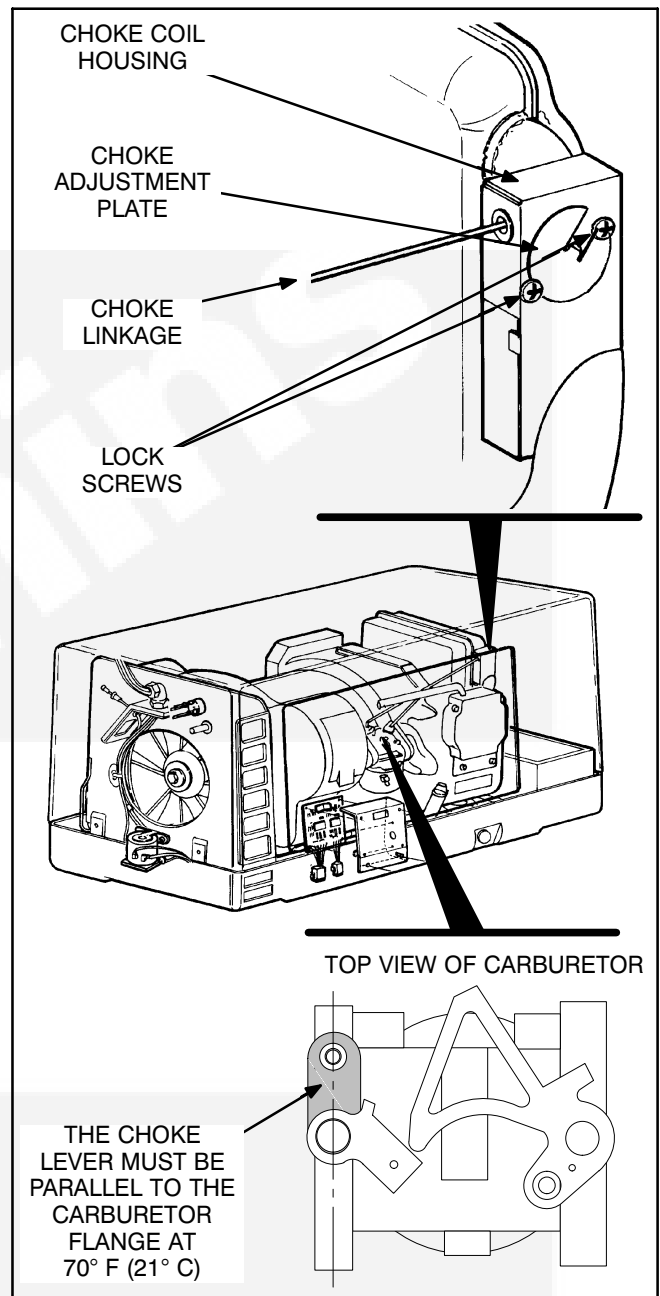

FIGURE 8-23. CHOKE ASSEMBLY (TYPICAL ALSO OF MODEL KVC)
**Choke Adjustment:** See Figure 8-23. Check the choke linkage to make sure it is not bent or rubbing. Rotate the choke lever on the carburetor. The choke shaft should move freely and it should return to its original position when released. To readjust the choke: